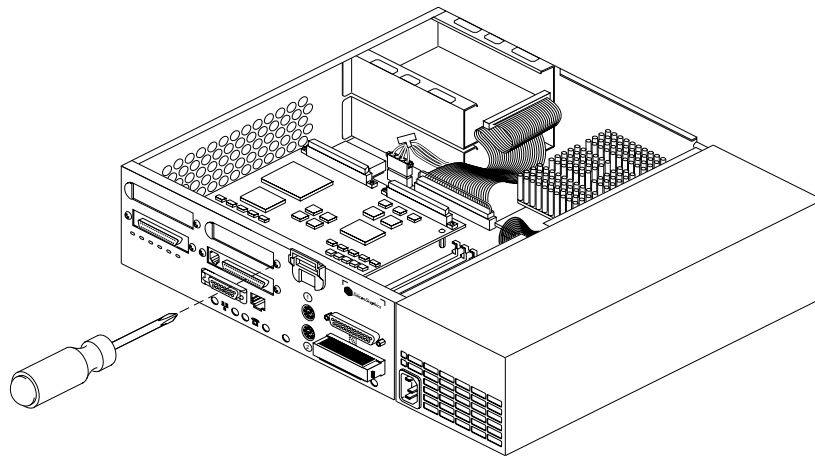

Figure 9-5 Removing the Screw From the Connector on the Rear of the Server
7. Using a Phillips screwdriver, remove the screws from the GIO board connector on the rear of the server, as shown in Figure 9-5.